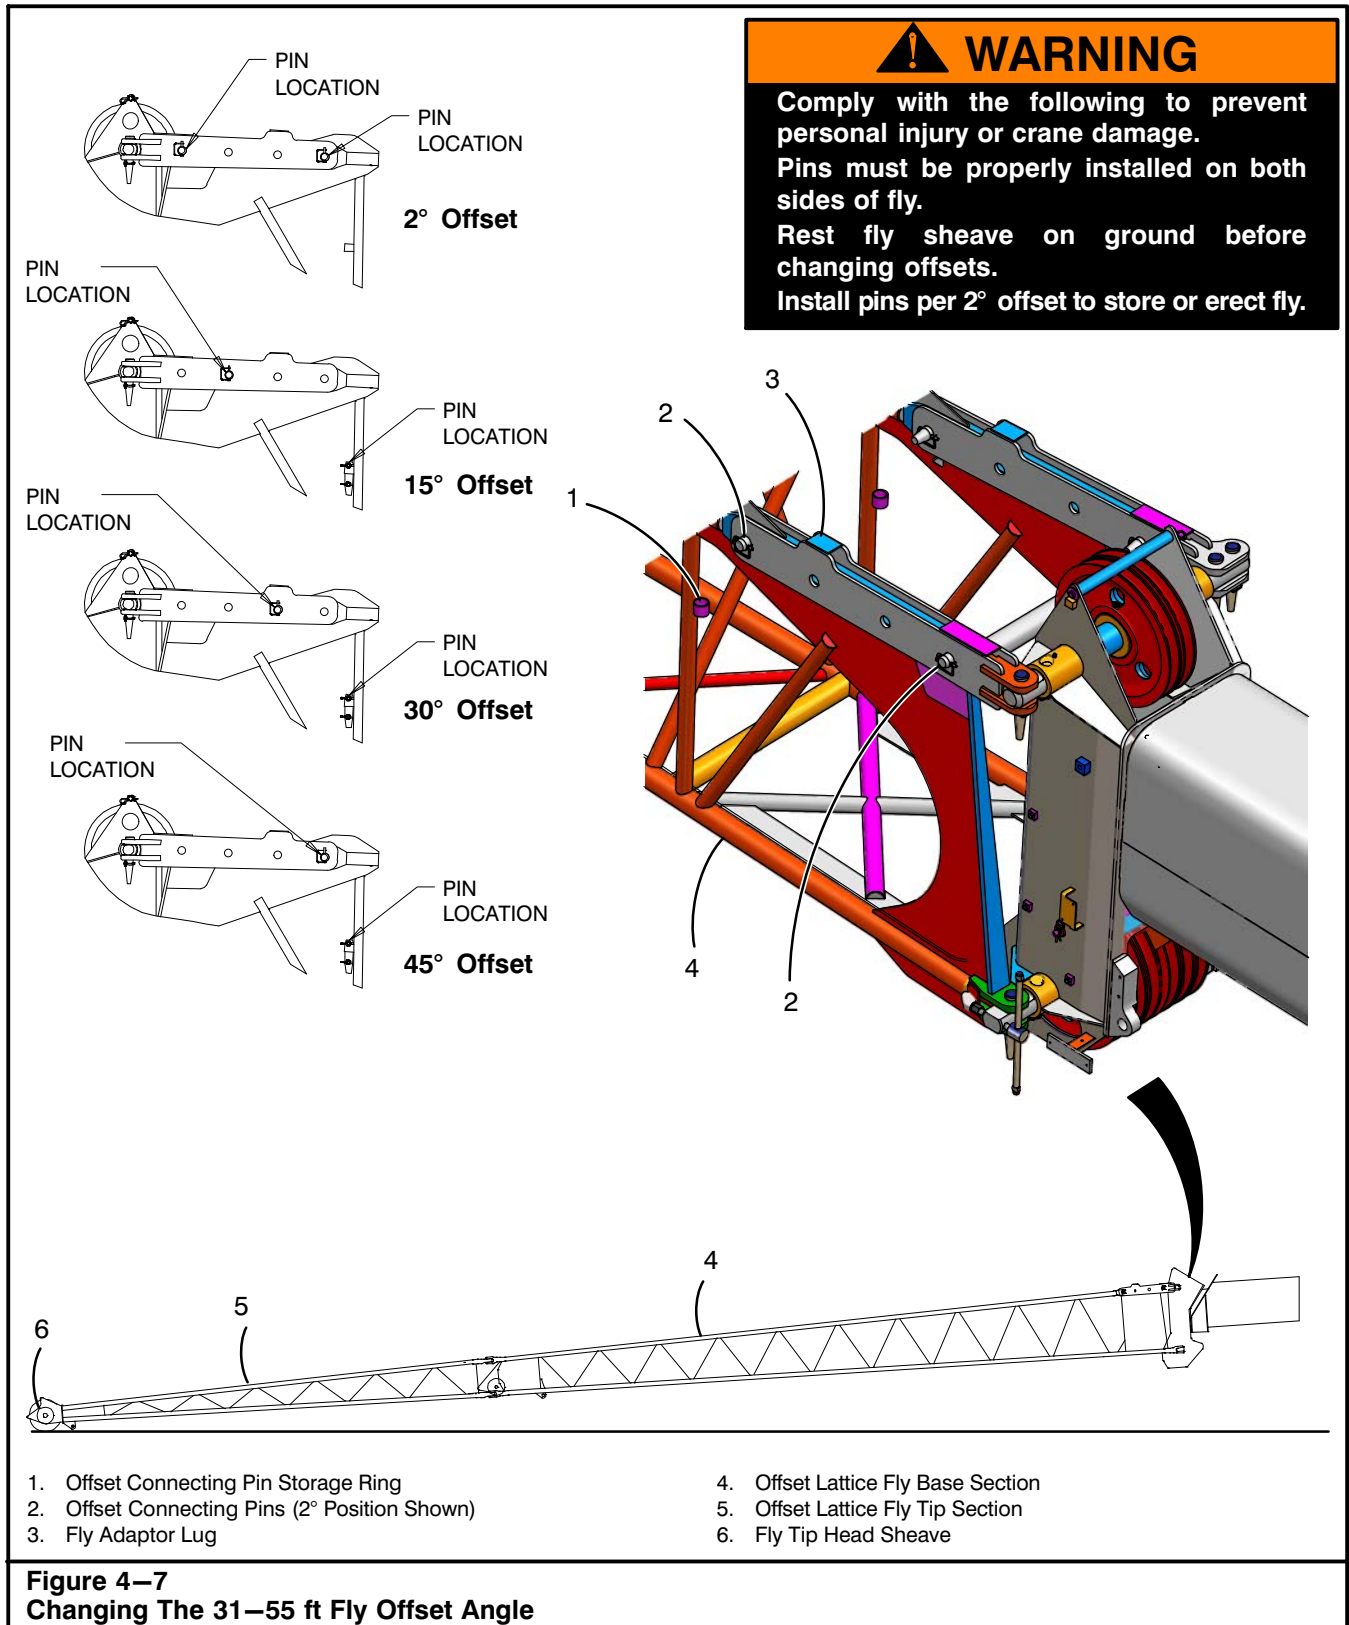

Figure 4–7
6. Pin the fly base and tip together on secure blocking. Refer to Figure 4–5. The fly base section weighs approximately 2,566 lb (1 164kg) and the fly tip section approximately 810 lb (367kg).
9. Remove the four fly connecting pins from the storage rings at the rear of the fly base section. Refer to Figure 4–6. Install all four pins to connect the fly lugs to the boom head machinery cross shafts on the right side of the boom. Refer to Right Side Fly Base Connecting Pin Label, refer to Figure 4–10. (Install the pins with the head on top and keeper on the bottom.) Install the pin keepers.
5. Check that the fly adaptor lug and offset connecting pins are installed in the 2° offset position. Refer to Figure 4–7. If necessary, change the fly offset to the 2° position. Refer to “Changing The 31–55 ft Fly Offset Angle” in this Section of this Operator’s Manual for detailed instructions.
- a. Remove the lockout clip from the main boom anti-two block switch weight cable. Refer to Figure 4–3. Ensure all necessary anti-two block harness connections have been disconnected.
11. Securely block up the fly section(s) to support it (them). Refer to Figure 4–5. The fly base section weighs approximately 2,566 lb (1 164kg) and the fly tip section approximately 810 lb (367kg).
12. Remove the six fly connecting pins and store four of the pins and keepers in the storage rings at the rear of the fly. Install the remaining two pins and keepers in the storage holes on the left side of the boom head machinery cross shafts to prevent the shafts from rotating. Refer to Figure 4–6.
7. Install the offset connecting pins in the correct location for the desired offset angle. Use the information label, on the offset lattice fly, to determine the correct offset connecting pin locations for the desired offset angle of the fly. Refer to Figure 4–7.
4. Check that the fly adaptor lug and offset connecting pins (2) are installed in the 2° offset position. Refer to Figure 4–7. If necessary change the fly offset to the 2° position. Refer to “Changing The 31–55 ft Fly Offset Angle” in this Section of this Operator's Manual for detailed instructions.
- a. Remove the plug assembly from the offset lattice fly base and connect it to the jumper assembly on the main boom head. Refer to Figure 4–3. Ensure all necessary anti-two block harness connections have been disconnected.
8. Remove wire rope guards from fly base head sheaves, fly base deflector sheave, the boom head sheave and boom deflector sheave. Refer to Figure 4–6. Remove the winch wire rope and lay it aside. Install all wire rope guards at all sheaves for storage.
11. Remove the bottom left fly base connecting pin on the left side of the fly using the t-handle to assist in relieving the load on the pin. Back off the t-handle until at least a 1/2 in (1.3cm) clearance from the fly lug is obtained. Remove the top left fly base connecting pin. Store connecting pins in the storage holes (11) on the boom head machinery cross shafts (2) on the left side of the boom to prevent the shafts from rotating. Refer to Figure 4–6.
12. Remove the inside bottom right fly base connecting pin on the right side of the fly. Refer to Figure 4–6. To reduce loading and ease pin removal, push the fly slightly right or left. Remove the inside top right fly base connecting pin on the right side of the fly. To reduce loading and ease pin removal push the fly slightly left or right. Store the two pins and keepers in the storage rings (4) on the rear of the fly base section (13).
14. Slowly swing the fly base section around to the right side of the boom. Slowly boom up to 50°. Refer to Figure 4–8.
16. Slowly fully retract the boom while maintaining 50° boom angle to slide the storage lug on the rear of the fly base into the slot on the rear fly storage bracket (10). Refer to Figure 4–12. At the same time, the bullet lug and the square lug on the front fly storage bracket (14) should engage through the holes on the rear of the fly base. Also if the fly tip section is stored on the boom, the fly base and fly tip lugs must engage.
17. Boom down low enough to reach retaining pins. Pull and rotate retaining pin to the engaged position (4). Refer to Figure 4–13. Push retaining pin to engage the pin through the square lug on the front storage bracket.